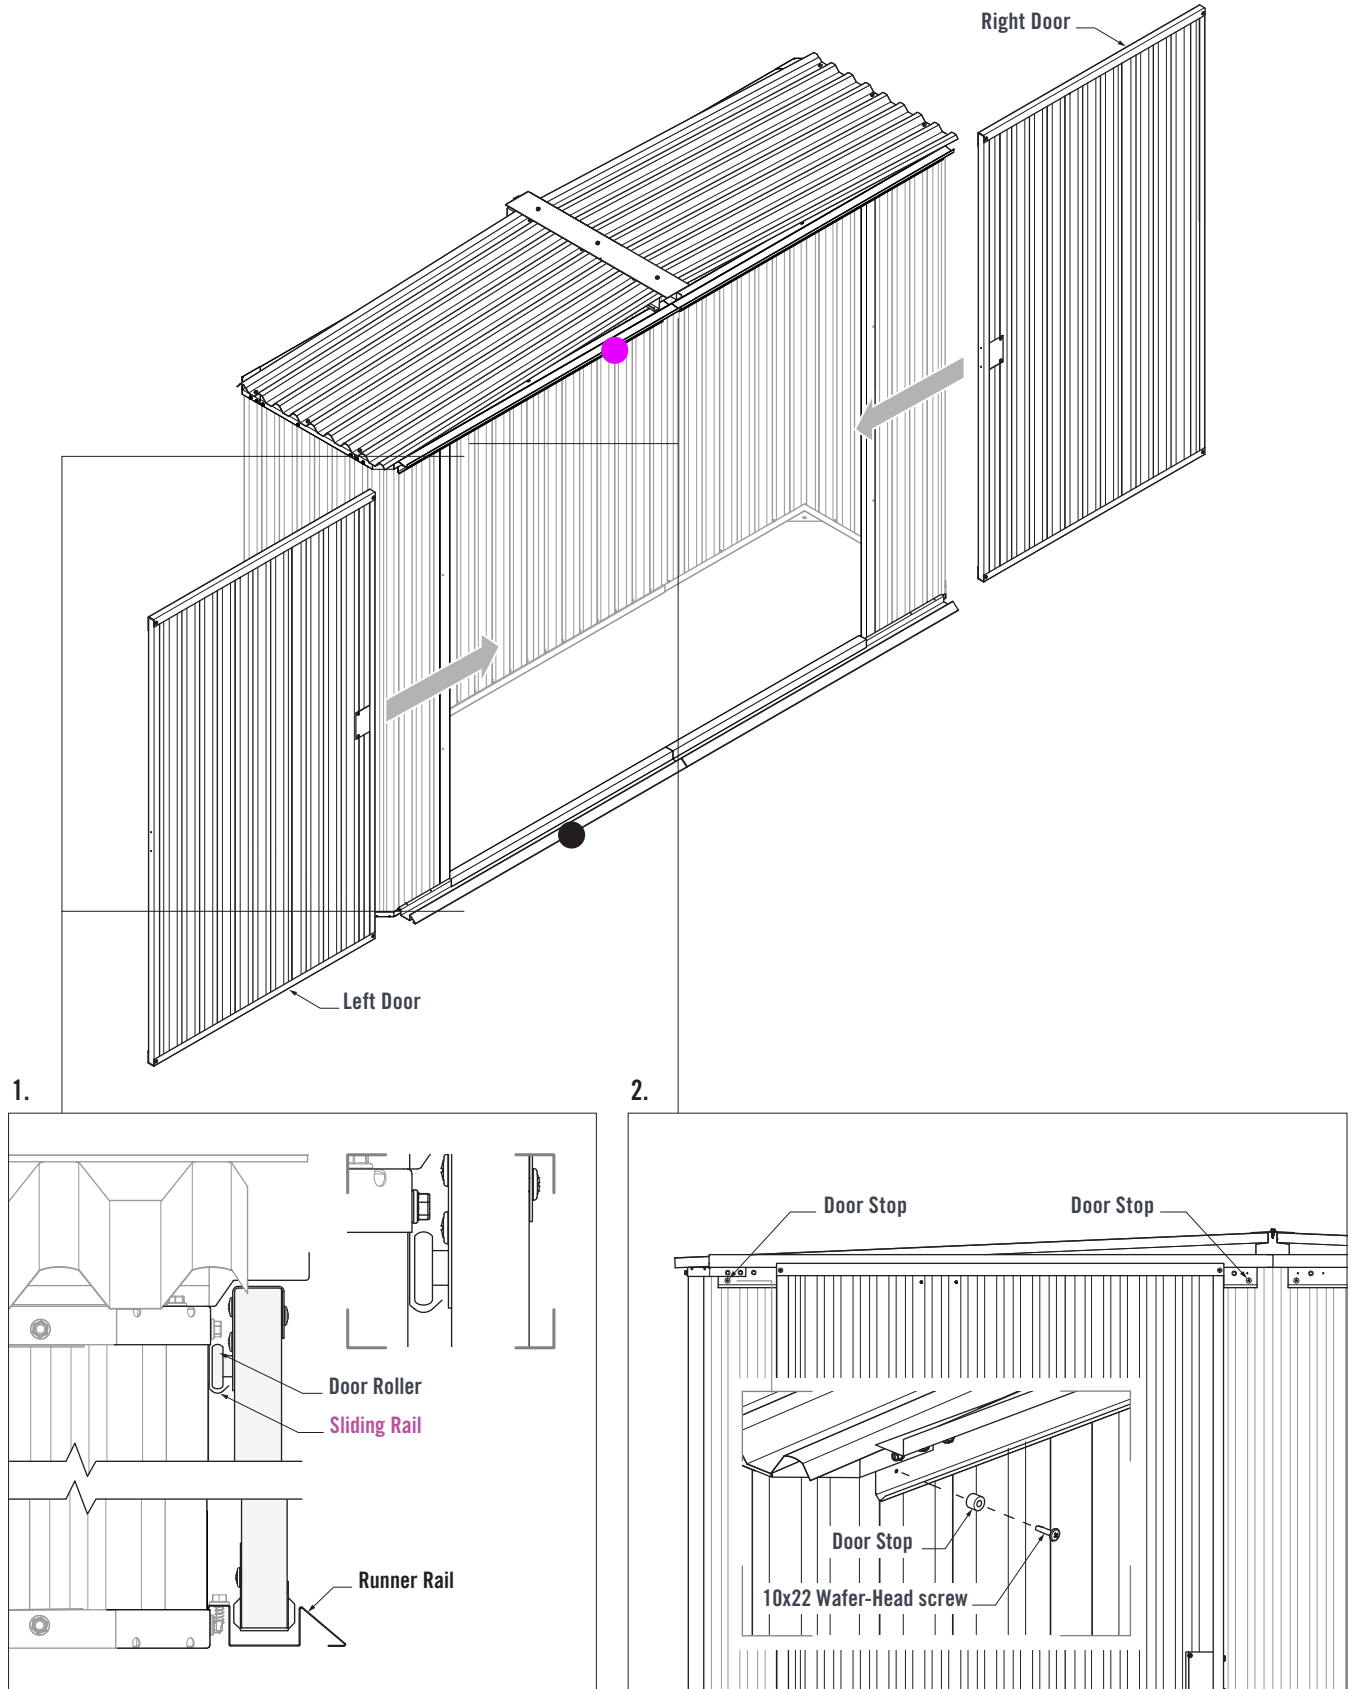

FIGURE 8.5
1. Slide the Left and Right Doors into the Sliding and Runner Rails. The Door Roller should fit into the Sliding Rail at the top. The bottom of the Door should fit into the Runner Rail at the bottom (Figure 8.5).
2. Fasten Door Stops through the pilot holes at both ends of the Sliding Rail with 10x22 Wafer-Head Screws. Fasten two more Door Stops to the other Sliding Rail, so that a Door Stop is installed at both ends of both Sliding Rails (Figure 8.5).